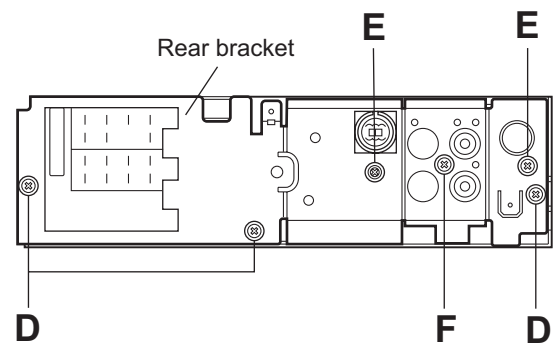

Fig.6
Do not damage the main board when releasing the joint **f** using a screwdriver. (See Figs.6 and 7)
3.1.5 Removing the rear bracket (See Fig.6)